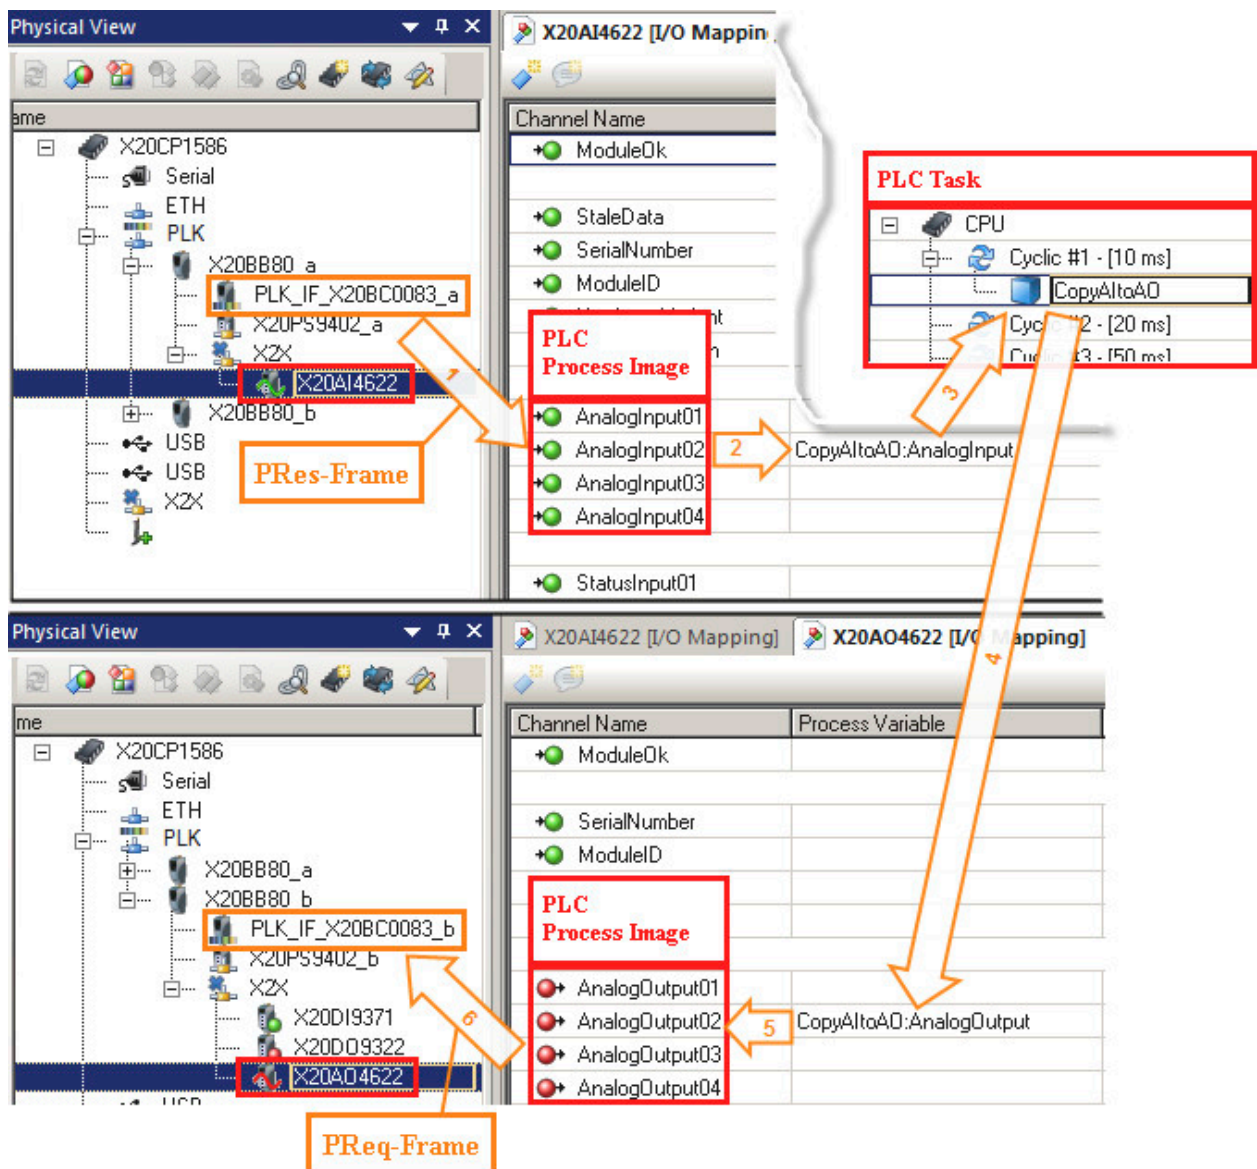
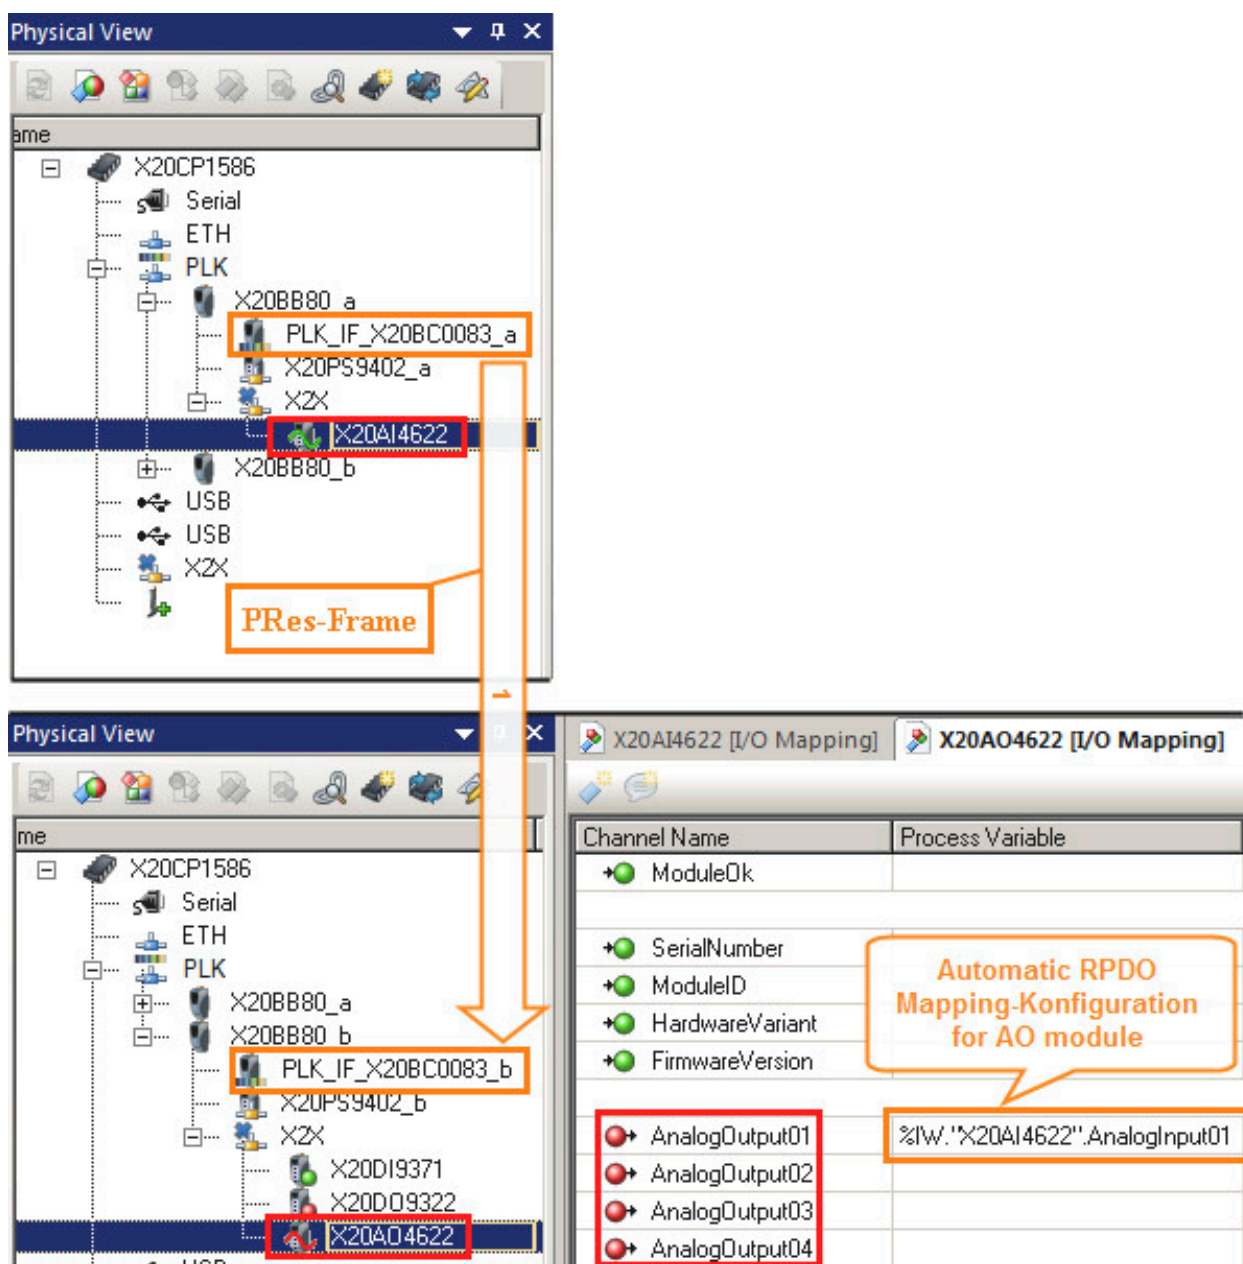

Figure 48: CN to CN connection via the MN
Figure 49: Direct CN to CN connection
With the right configuration, a PRes frame can be received by any other CN in the network. This configuration of a "monitoring" node generally takes place during startup, but can also occur later while the node is in the OPERATIONAL state. The path taken by the data is reduced to a single step, as shown in the image above (Fig. 49 "Direct CN to CN connection").
In this exercise, we will send a CN's input data first to the MN, where it will be copied and forwarded on to the second CN, as illustrated in Fig. 48 "CN to CN connection via the MN". Then we will compare this to the path for direct CN-to-CN communication (see Fig. 49 "Direct CN to CN connection").
- 6) Compare with your own project and examine the path taken by the analog data using Fig. 48 "CN to CN connection via the MN" on page 59 as a reference.
Note: The process variable entered in the I/O mapping is **AnalogInput01** of module X20AI4622, but is not a PLC variable like in the previous case. Compare with Fig. 49 "Direct CN to CN connection" on page 60 .
- 1) Change the connection between **AnalogInput02** and **AnalogOutput02** in the Automation Studio project "POWERLINK_ETA" back to a CN-MN-CN path (no direct cross-traffic, see Fig. 48 "CN to CN connection via the MN").